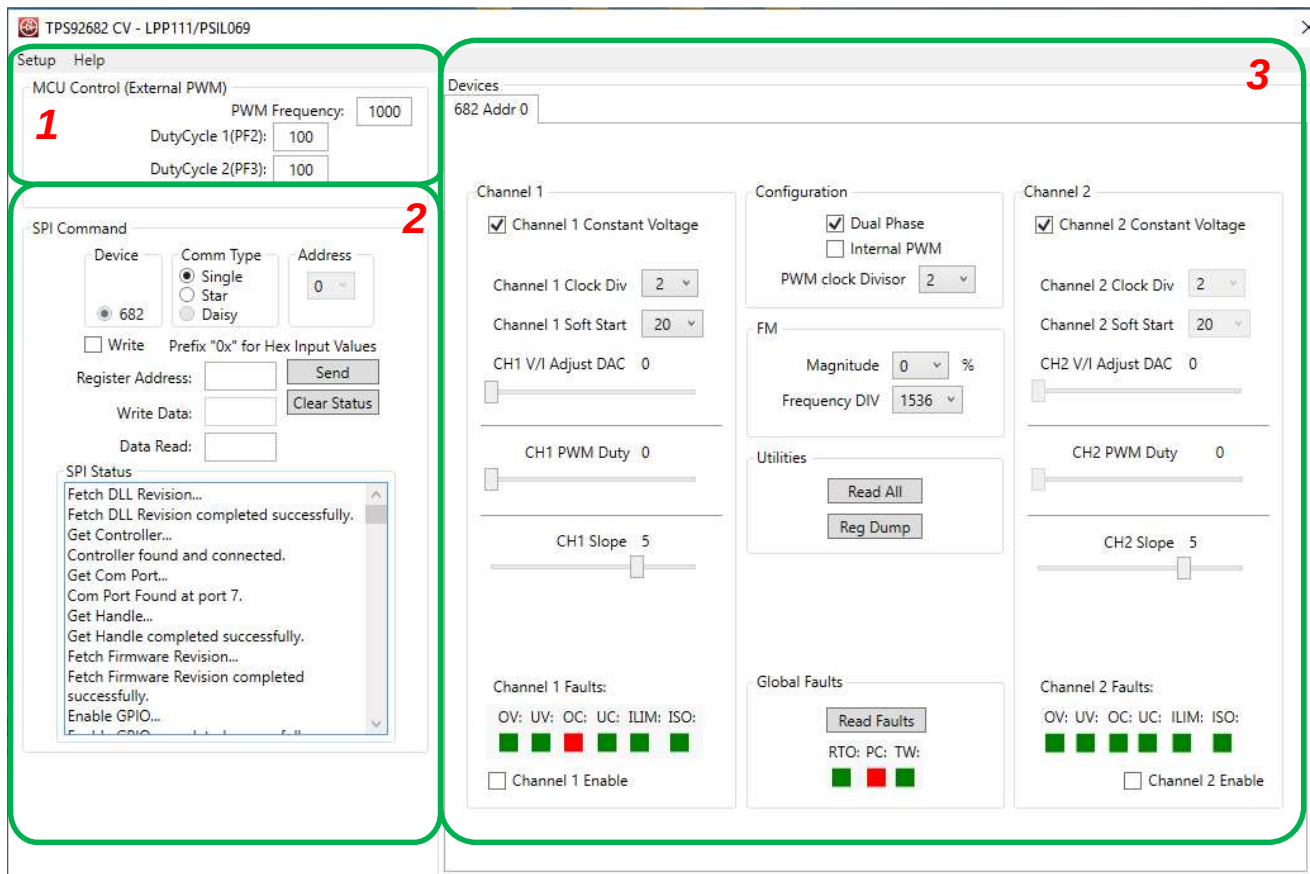
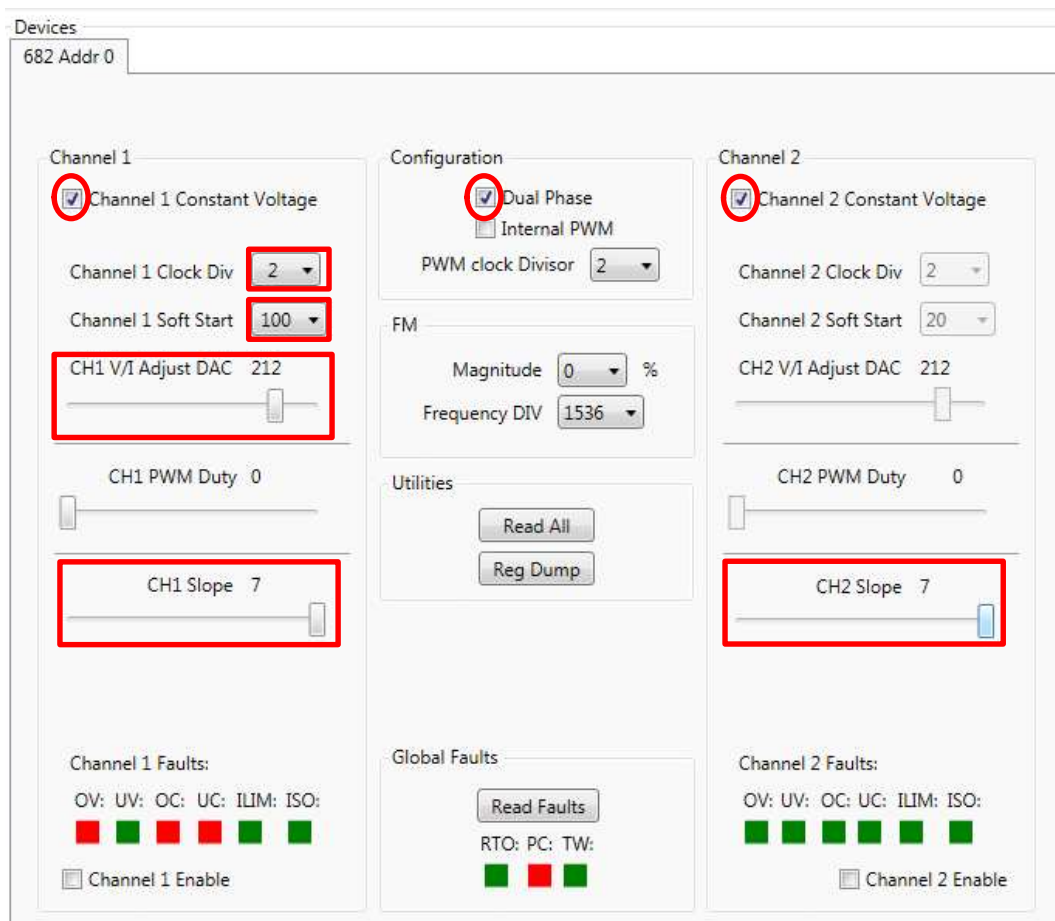

Figure 43. GUI, Main Window
Figure 45. SPI Command Window
The main GUI window should now appear as shown in Figure 43. This window include three sub-windows:
Because TPS92682EVM-069 is configured as a 2-phase CV boost converter, ensure the settings shown in red in Figure 45 are correctly set to turn-on and regulate the output voltage.
The settings shown in Figure 43 are sent to the TPS92682-Q1 when the GUI is started. However, if the power to the TPS92682EVM-069 is off when the GUI is started, the settings are not applied after the power-on of the EVM. To make sure that all the required settings are applied, uncheck and re-check the check-boxes in the GUI control box shown in Figure 43 and Figure 45.
6. By default CHx-Slope is set to code "5", which corresponds with 250mV of peak slope. For the TPS92682EVM-069, it is recommended to set the slopes for both channels to code "7" as shown in Figure 45